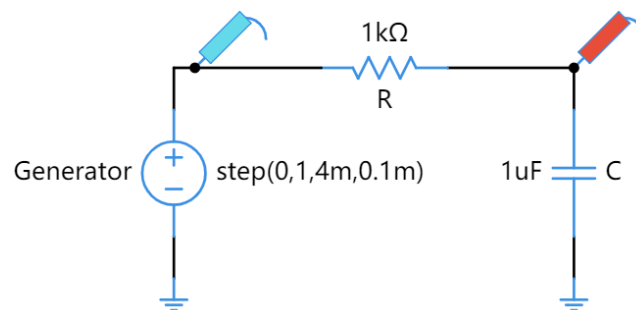

Fig.4 Circuit configuration for the first-order RC simulation
1. Build a circuit as shown in Fig. 4.
4. Now, you can run the simulation using the icon “TRAN”. In the “TRAN” solver, two “Voltage probes” should be put at the two ends of the resistor, as shown in Fig.4. You should find a suitable stop time (for example 0.02s) to show your simulated traces.